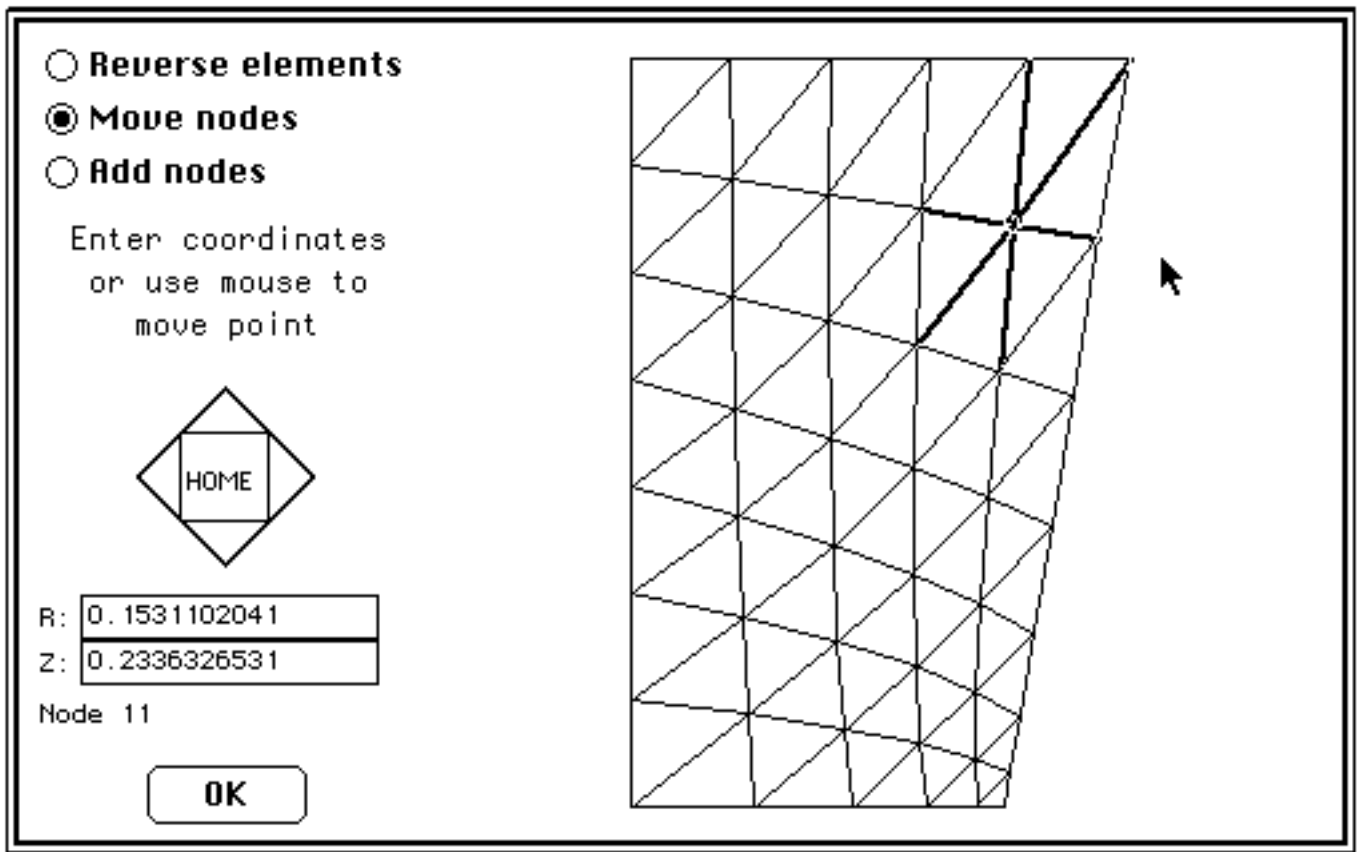

Fig 3.33 Move nodes
- Click Move nodes (Fig 3.33).